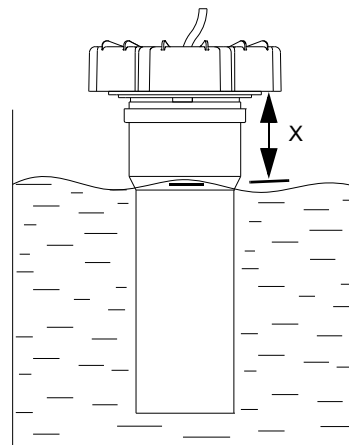

Fig. 12 Piezoresistive sensor calibration
6. Make a mark on the pressure tube below the top level, and enter in the PC Tool program the distance [X] (mm) from the top down to the mark. Immerse the pressure tube into the water. The deeper the tube is in the water, the better the calibration. See fig. 12.